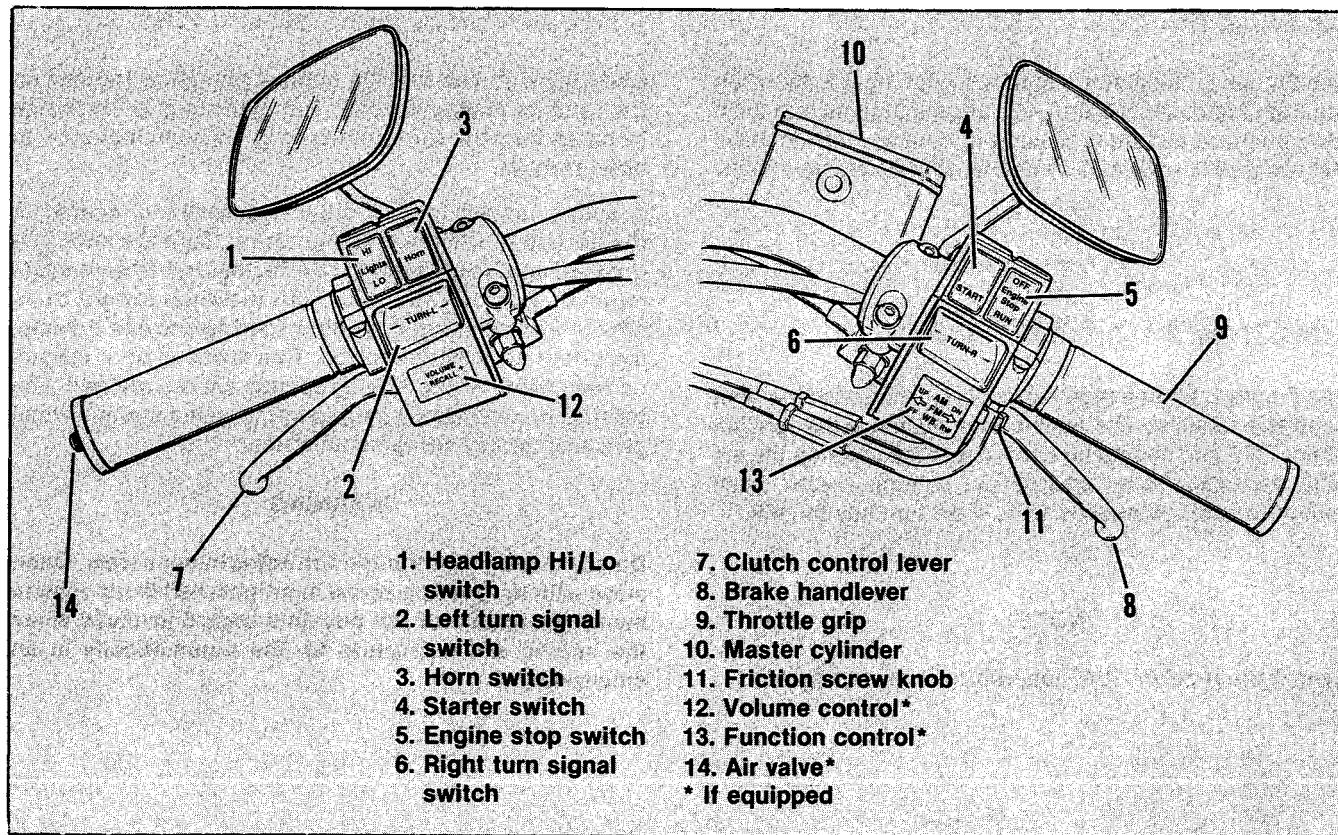

Figure 2. Handlebar Controls
See Figure 2. The electric starter switch (4) is located on the right handlebar control. Put engine stop switch (5) in RUN position and transmission in neutral. Turn ignition ON and push the START switch to operate starter motor.
See Figure 2. Engine stop switch (5) is located on the right handlebar control. The engine stop switch turns ignition ON or OFF and should be used at all times to stop the engine, especially in an emergency. To stop engine, push switch to position marked OFF. Then turn key to OFF.
See Figure 2. The throttle control grip (9) is located on the right handlebar control. Turn control grip clockwise to close throttle; turn control grip counterclockwise to open throttle.
See Figure 2. The clutch hand lever (7) is located on the left handlebar where it is operated with the fingers of the left hand. Pull lever in against handlebar grip to disengage clutch; release the lever slowly to its outward position to engage clutch.
The brake pedal controls the rear wheel brake and is located on the right side where it is operated by the right foot. See Figure 2. The brake hand lever (8) controls the front wheel brake and is located on the right handlebar, where it is operated by the fingers of the right hand.
See Figure 2. The right handlebar turn signal switch (6) operates the right front and right rear flashing lamps. The left handlebar turn signal switch (2) operates the left front and left rear flashing lamps. Front turn signal lamps also function as running lamps.
See Figure 2. The headlamp dimmer switch (1) on the left handlebar controls the headlamp high and low beams.
See Figure 2. The horn is operated by the horn switch (3) on the left handlebar control.
See Figures 2, 5 for sound system controls. For a more detailed explanation of the sound system controls, read the Harley-Davidson Premium Sound System Handbook.